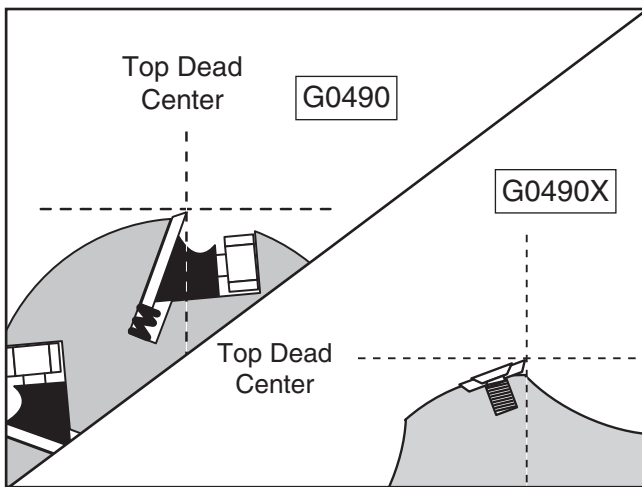

Figure 21. Knife or insert at top dead center.
24. Use the cutterhead pulley to rotate the cutterhead until one of the knives or inserts is at top dead center (their highest point during rotation), as illustrated in **Figures 21–22**.